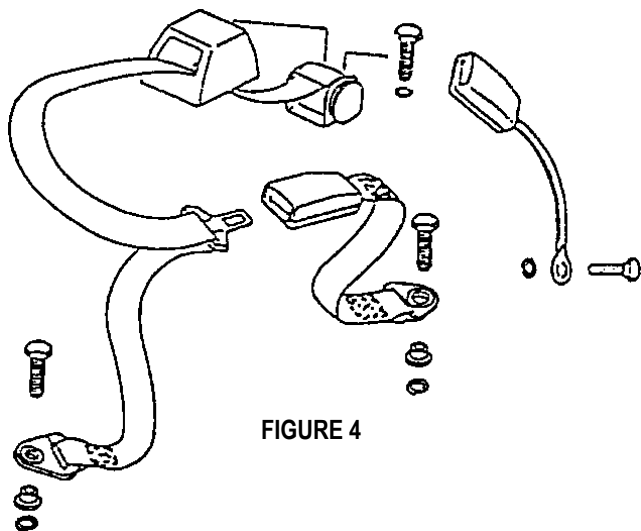

FIGURE 4
1. Assemble the buckle and fittings as shown in method 'B1' & 'B2' for vehicles without an in-built anchorage. For vehicles with an in-built anchorage, only the bolt spacer and or the spring washer are required as shown in Fig 4.